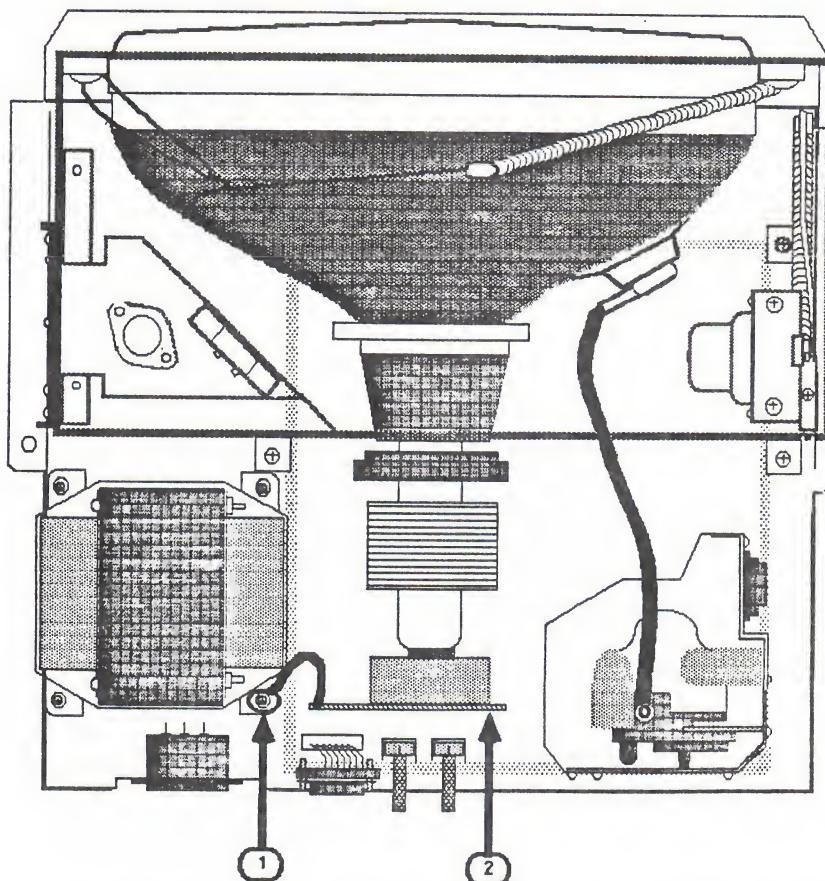

FIGURE 6
5. Disconnect the ground strap by removing the power transformer screw shown in Figure 6, #1.
6. Carefully pull the CRT socket board (Figure 6, #2) away from the CRT neck until it barely clears the neck base. Hold the board so that it does not fall free, and tilt it so that the component side is facing up.